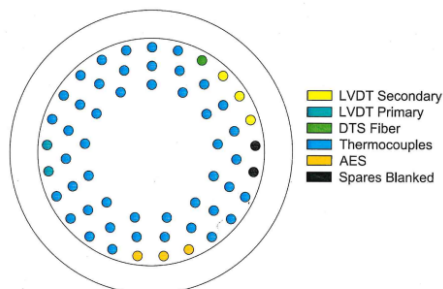

Figure 2. P1 Flange Conax Instrumentation Configuration
44. Route Type K thermocouple soft extensions through internals in P1 flange Conax in configuration shown in Figure 2. Configuration can vary as long as AES leads are spaced as far radially from the LVDT Primary and Secondary leads